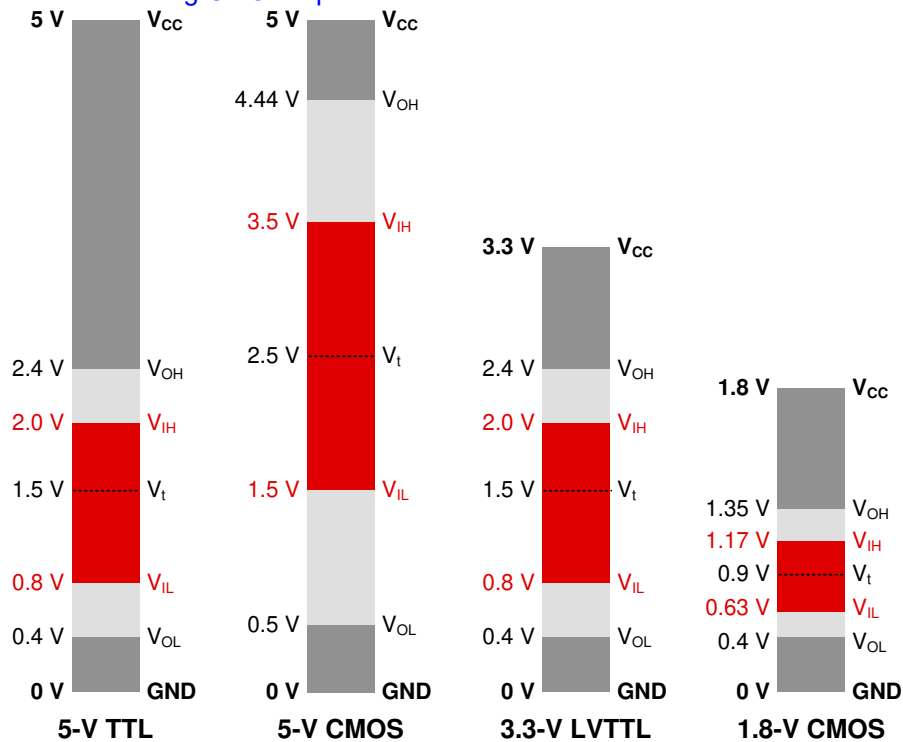

Figure 4-1. Logic Thresholds
- Switch Control Signal Levels (V_{IH}/V_{IL}):** V_{IH} is the minimum voltage for the input control signal to achieve a *Logic 1* value and V_{IL} is the maximum voltage for the input control signal to remain a *Logic 0* value. Why are these important analog switch considerations? In most applications, the signal switch is controlled by the output of a digital source, therefore, the control signal levels, V_{IH} and V_{IL} , must be compatible with that source to ensure proper operation of the switch. To prevent digital logic control issues, the system must ensure that the output high (V_{OH}) logic output is higher than the input high (V_{IH}) logic input it is controlling. In addition, the output low (V_{OL}) of the logic output must be lower than the input low (V_{IL}) of the logic input it is controlling. See Figure 4-1 for this logic standard. Some components may not meet the standard, but having $V_{IH} < V_{OH}$ and $V_{IL} > V_{OL}$ ensures proper system operation. Furthermore, operating the control logic between the V_{IH} and V_{IL} levels will leave the device in an undetermined state where the outputs cannot be known for certain. See Implications of Slow or Floating CMOS Inputs for more information.